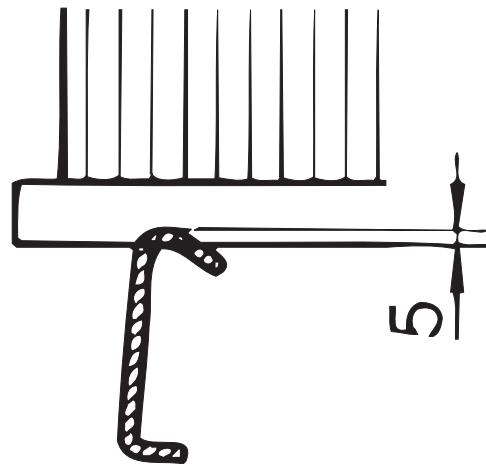

Figure 13
7. After installing the first filter element, turn up the locating bars far enough to permit the lower filter bar to seat about 5 mm (Fig. 13) into the recess of the locating bar.
The vent holes in the sealing strip must face inward (Fig. 13).